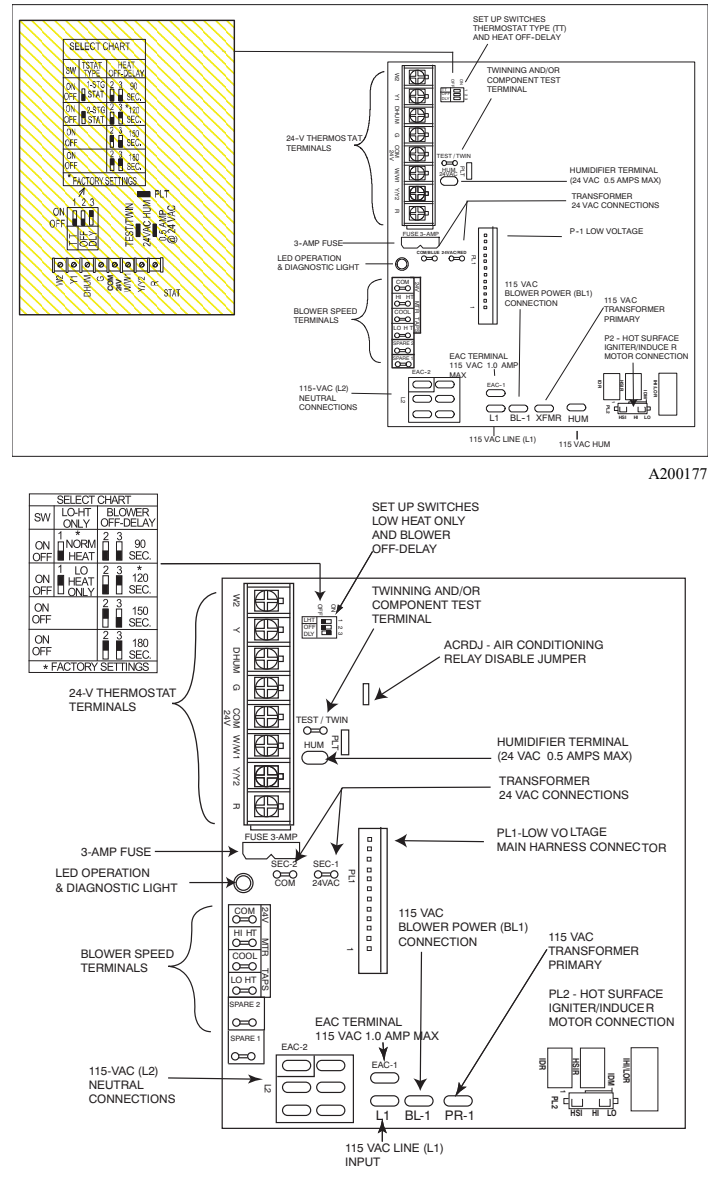

Fig. 22 – Example of Two-Stage Furnace Control
1. Turn Setup Switch SW1 (LHT or TT) on furnace control ON, see Fig. 22.
1. Verify SW1 (LHT or TT) on furnace control is turned "ON". See Fig. 22.